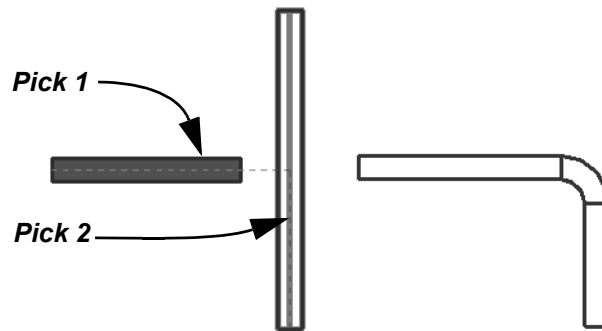

Figure 2–75
3. Select the second linear element on the side you want to keep, as shown in Figure 2–75.